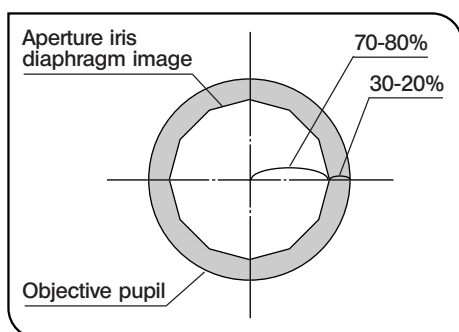

Fig. 18
### 2 Using the Aperture Iris Diaphragm (Fig. 18)
- Remove the eyepiece when necessary (and insert the CT-5 or U-CT30 if you have one). Then look into the eyepiece sleeve; you will see the field of view as shown in Fig. 18. Now adjust the aperture iris diaphragm lever as required.